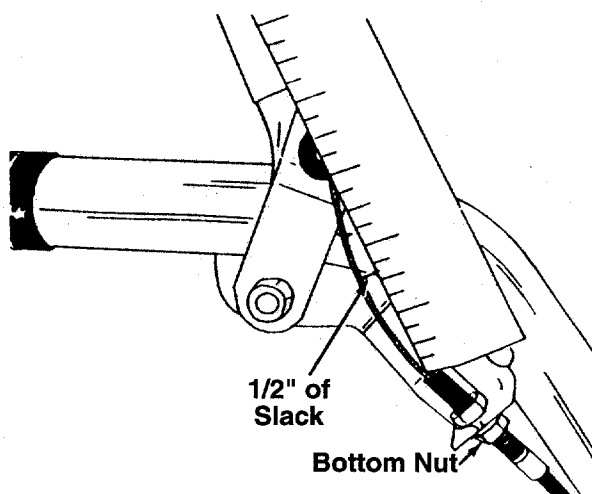

FIGURE 7.
5. With the clutch lever released (in the "up" position, all the way forward), adjust the bottom nut at the cable bracket so there is 1/2" of slack in the control wire as shown in figure 7. Tighten the upper nut against the bracket. Carefully squeeze the clutch lever against the handle. The control wire should now be straight.